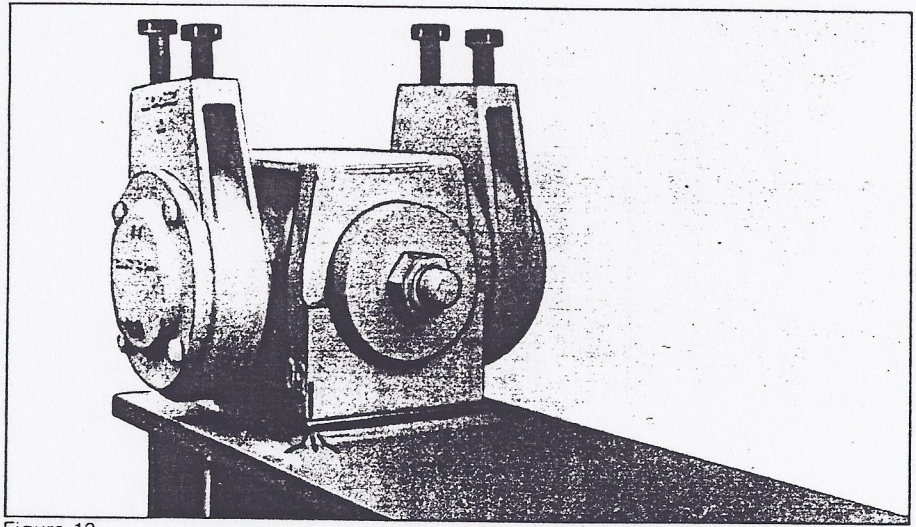

Figure 13
- c. Align the equalizer bearing with the walking beam. Bolt holes provide some play, move bearing to extreme right or left and mark extreme position at corner. Then move bearing to extreme other side and mark same corner. Divide distance of marked points, and center bearing accordingly. See illustration in Figure 13.